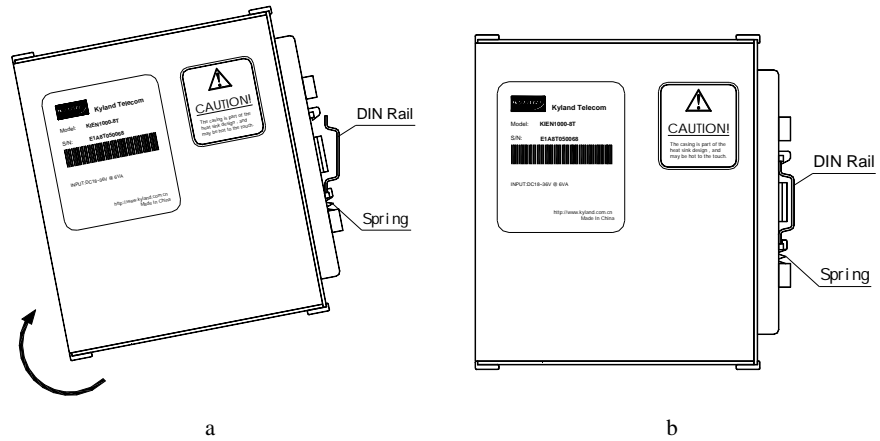

Figure 4-2 Mounting KIEN6000T on DIN rail
1. Insert the lower part of DIN rail into the fixing slot with spring supporting in the lower part of the DIN rail connector socket. Slightly rotate the equipment upwards from bottom panel of KIEN6000T as shown in Figure 4-2 a.
2. As shown in Figure 4-2 b, clip DIN rail into the DIN rail connector socket, and ensure that KIEN6000T equipment has been reliably mounted on DIN rail.